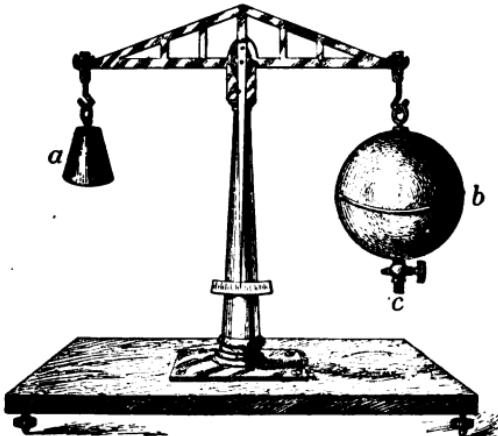

FIG. 35
45. Cause of Atmospheric Pressure. — Now how does the atmosphere exert pressure? In just the same way that liquids do, — because *gravity acts on all its particles, pulling them down*. We are not in the habit of thinking air weighs anything; yet if we stop and reflect that air is matter, and all matter is attracted by gravity, it is evident that air must have weight. This may be easily proved. Fig. 35 shows a pair of very sensitive scales. The globe *b*, full of air, is exactly balanced by the weight *a*.